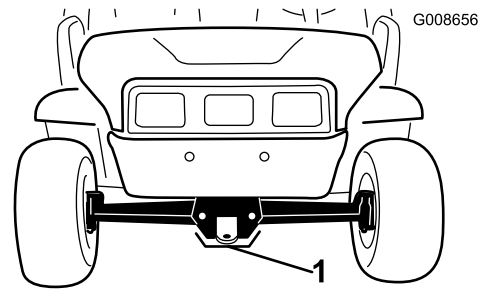

Figure 22
- The lifting point at the front of the machine is at the front of the frame behind the towing tongue (Figure 22).